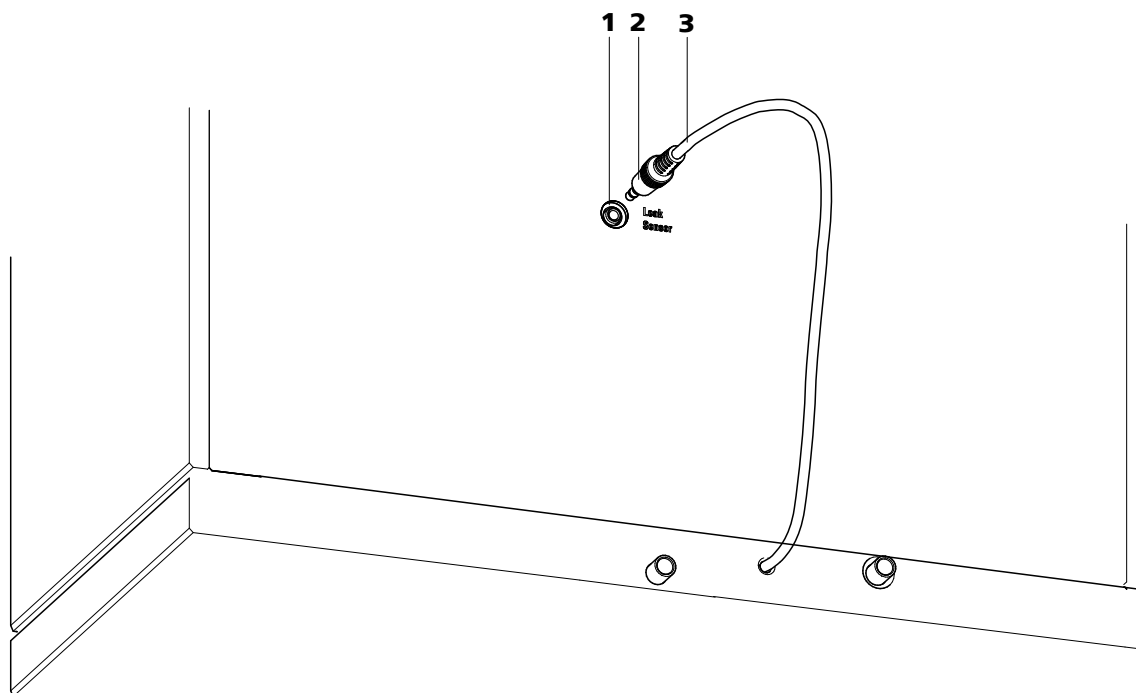

Figure 6 Connection of the leak sensor on the rear of the instrument
- 1 Plug the leak sensor connector plug (6-2) into the leak sensor connection socket (6-1) on the rear of the instrument (*see figure 6, page 21*).